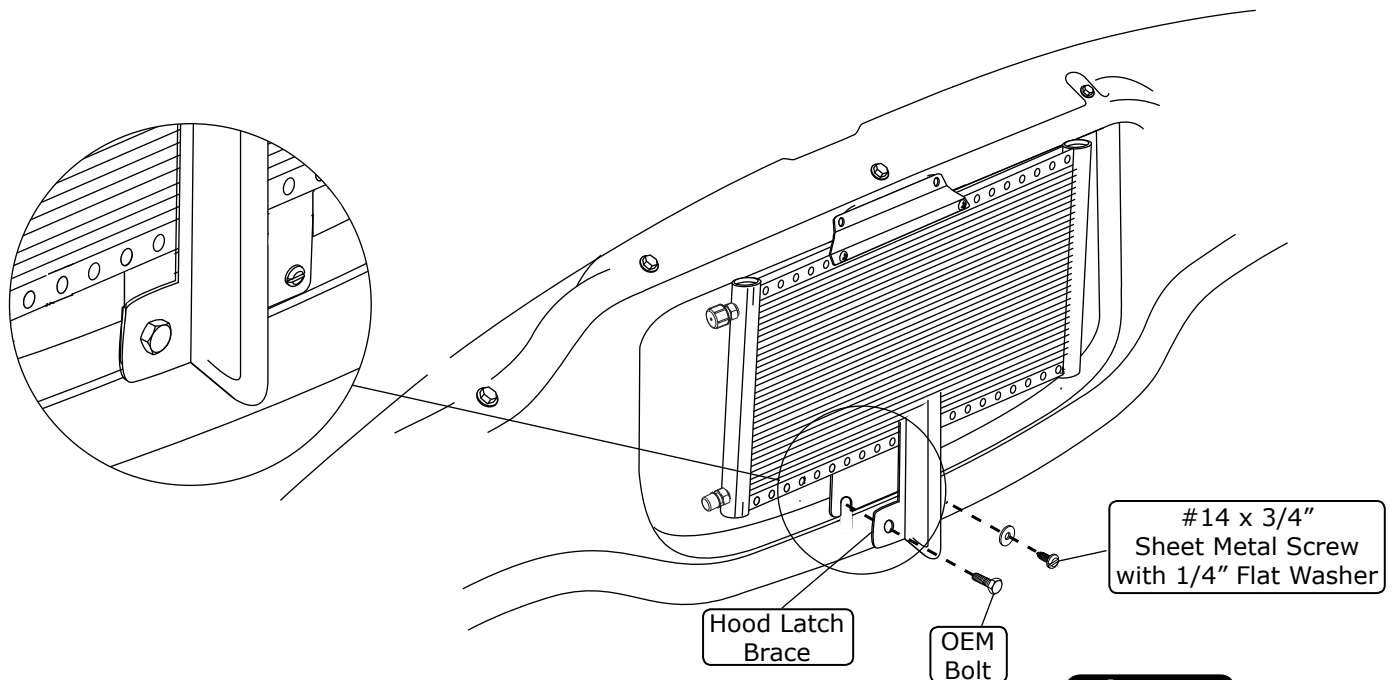

Figure 2
2. Install the bottom mounting bracket onto the condenser using (2) 10-24 x 3/8" pan head screws and (2) 10-24 nuts with star washers as shown in Figure 2, below. **NOTE: The bracket mounts through the 7th and 11th holes from the left side of the condenser (Rear View).**
2. Secure the bottom passenger side of the condenser to the core support using the OEM bolt as shown in Figure 2, below.
3. Using the driver side mounting hole as a guide, drill a 3/16" hole into the core support. Secure the condenser to the core support using a #14 x 3/4" sheet metal screw with a 1/4" flat washer as shown in Figure 2, below.